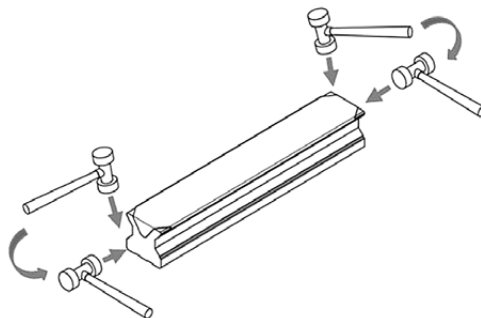

Fig. 5.22 Bending the cover strip ends
- ▶ Finally, carefully bend the two ends of the cover strip with a rubber mallet as shown in Fig. 5.22.